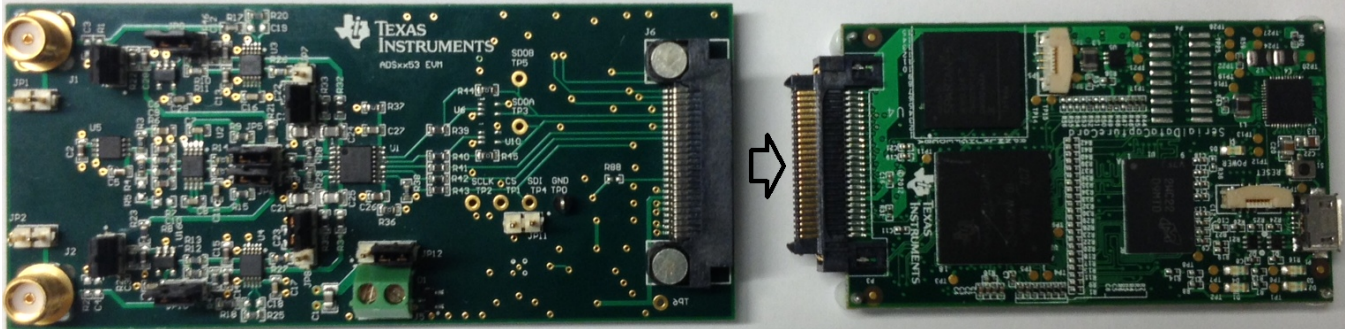

Figure 9. Connecting the ADSxx53EVM Board to the Simple Capture Card Controller Board
- Step 3. Connect the ADSxx53EVM board to the simple capture card controller board as Figure 9 shows.